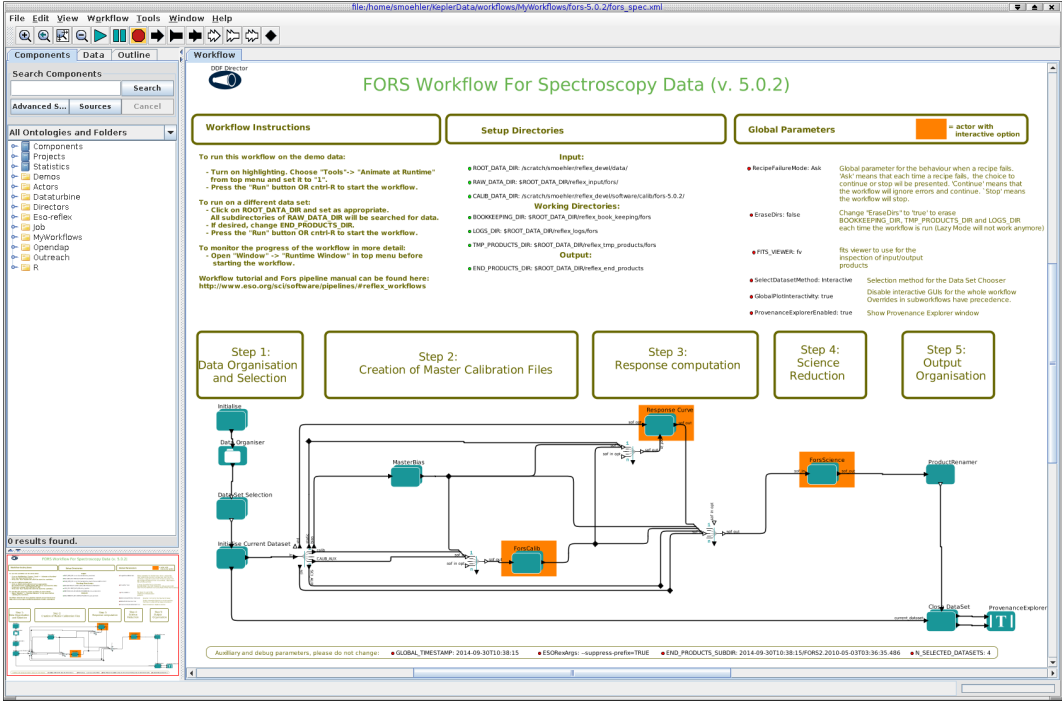

Figure 4.2: FORS2 workflow general layout.
2. Now open the FORS2 workflow by clicking on File -> Open File, selecting first fors-5.0.24 and then the file fors_spec.xml in the file browser. You will be presented with the workflow canvas shown in Figure 4.2. Note that the workflow will appear as a canvas in a new window.